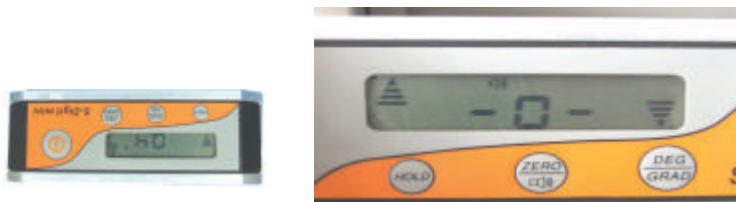

Figure 21
(4) Turnover the unit on the same surface to make it upside down, as shown in figure 21, then press “Zero calibration” key for more than 3 seconds, the LCD will display “-0-“;